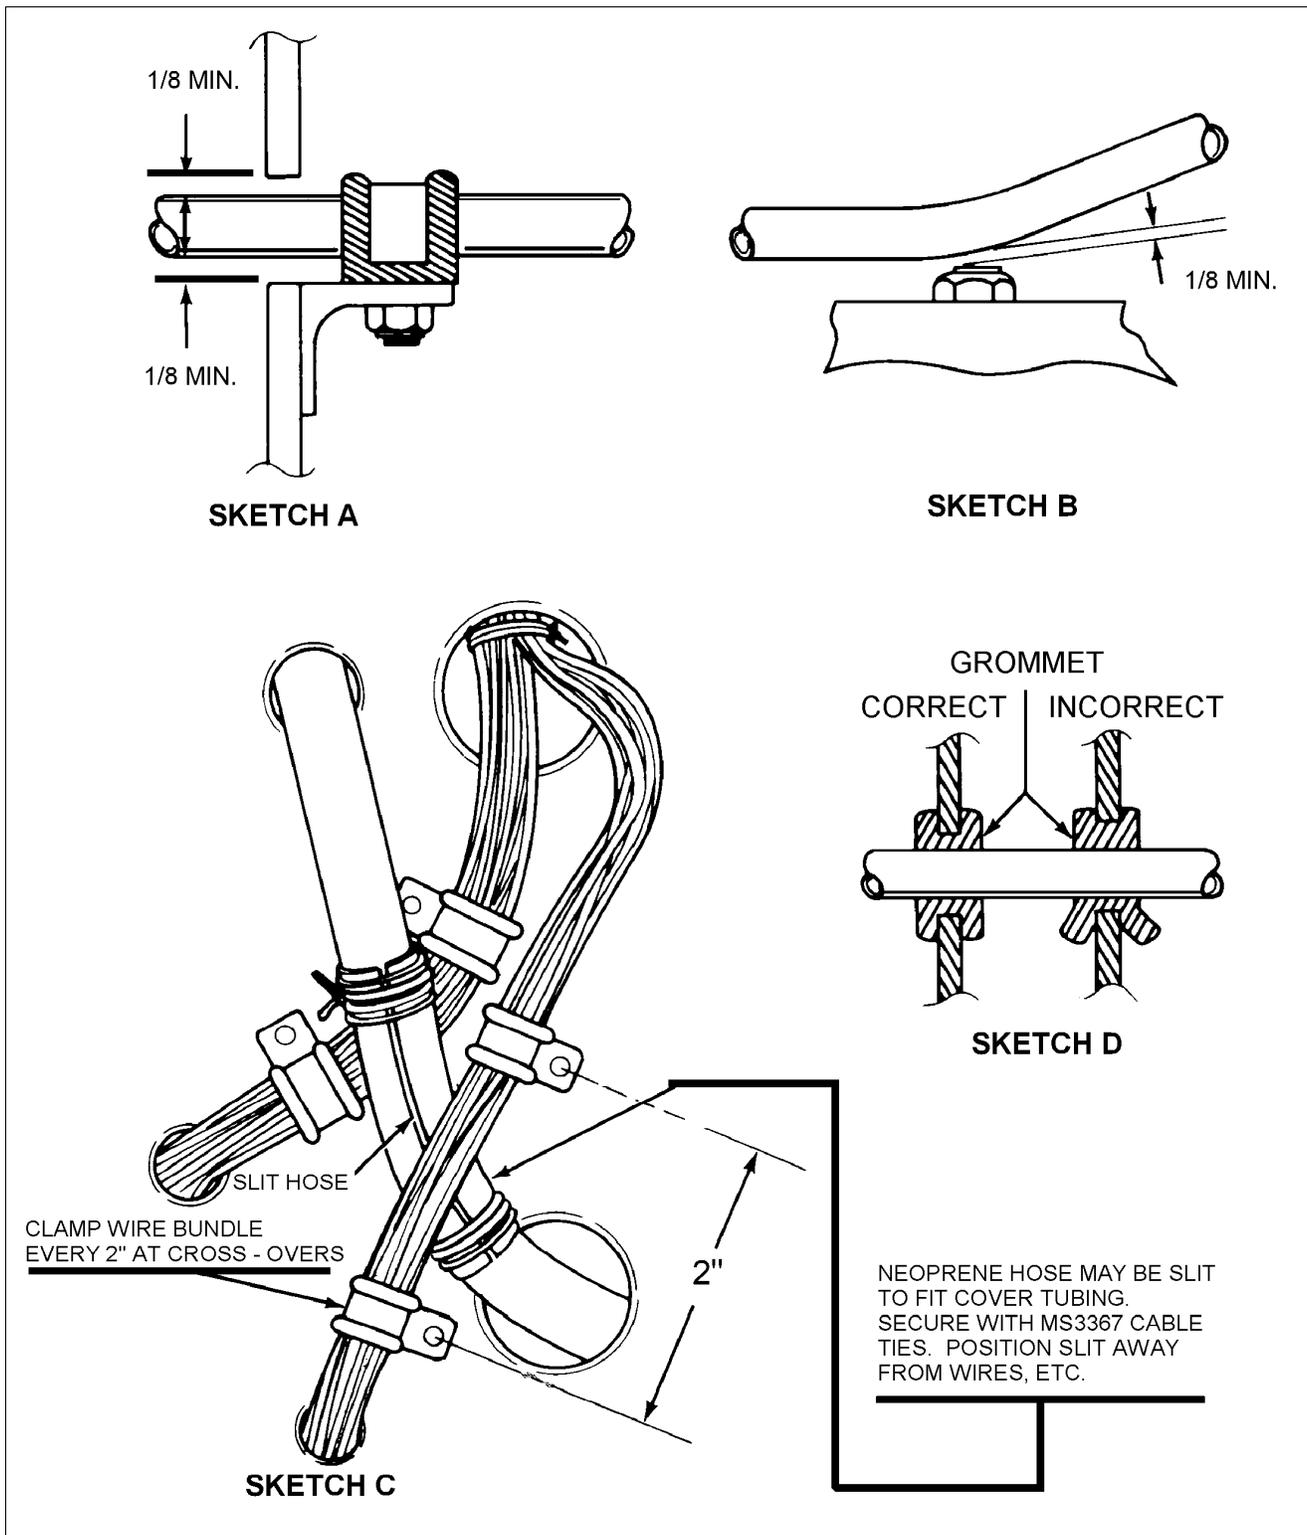

Figure 35-3. Oxygen Tubing Installation
- i. Make sure to check the oxygen lines for proper clearance as follows: (Refer to Figure 35-3.)
- (1) Two inch minimum between oxygen tubes and all flexible moving parts of the aircraft (flexible control cables, etc.). If enough space cannot be attained, protection from abrasion must be provided.
- (2) At least 1/2 inch minimum between oxygen tubes and all rigid moving parts of the aircraft such as levers and rigid control rods.
- (3) Six inch minimum separation between oxygen tubes and hydraulic, fuel and electrical system lines and components.
- (4) A minimum of 1/8 inch between tubing and structure adjoining the supporting clamp as shown in Figure 35-3, Sketch A.
- (5) Where a tube passes through a grommet, the tube must not bear on the grommet in any way that might cause cutting of the grommet in service as shown in Figure 35-3, Sketch D.
- (6) While in service, items may receive vibrations causing them to come in contact with other parts of the aircraft. With this in mind, low pressure tubing that is supported well enough to prevent relative motion must have at least a minimum clearance of 1/8 inch from a projection (bolt, nut, etc). Low pressure tubing that cannot be supported well enough to prevent motion must have a minimum clearance of 1/8 inch allowed after the maximum travel of the tube. High pressure lines are affected similarly but require 1/2 inch minimum clearances. (Refer to Figure 35-3, Sketch B.)